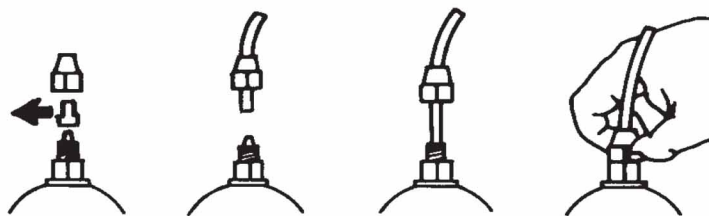

Fig. 7
- e. - Remove the protection caps from the two nipples, slide the hoses over the connectors, pushing them right home, and then fix them with appropriate tube nuts. (Fig. 7).